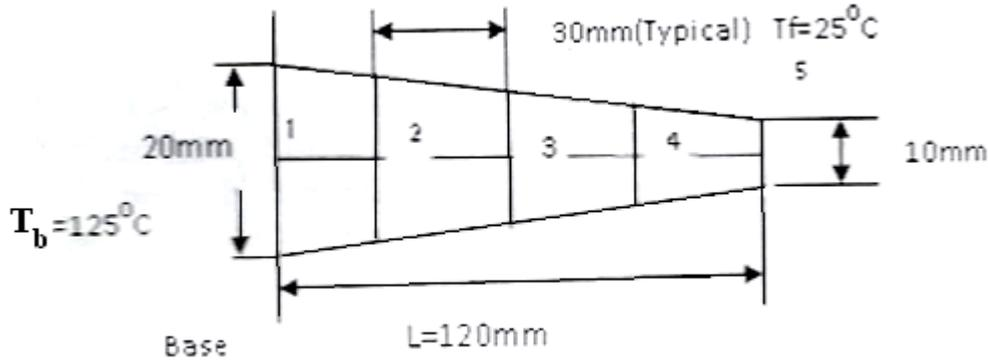

Figure 1
- B The cover of a cylindrical pressure vessel made of cast iron is shown in fig.1 The inner diameter of the cylinder is 500 mm and the internal pressure is limited to 2MPa. The cover is fixed to the cylinder by means of 16 bolts with a nominal diameter of 20 mm. Each bolt is initially tightened with a preload of 20 KN. The bolts are made of steel
B Consider steady state heat through circular cross sectioned, tapered in length fin with temperature at fin base and the surrounding fluid as $T_b = 125^\circ\text{C}$, $T_f = 25^\circ\text{C}$ respectively. (Refer Figure 1) Assume $T_5 = 25^\circ\text{C}$. Obtain temperature of nodes 2,3,4. Assume thermal conductivity of fin material $k = 1 \text{ W/mK}$ and heat transfer coefficient for surrounding fluid $h = 10 \text{ W/m}^2\text{K}$. Derive the governing equation from the basic energy equation. Use numerical technique to solve. 12